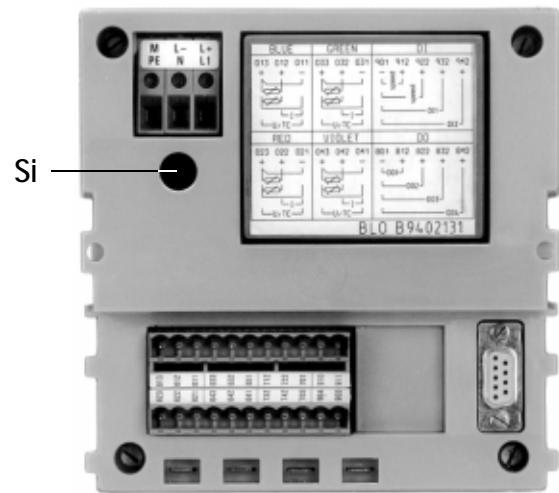

Figure 19 Replacing fuse Si
4.1 Fuse replacement (see figure 19)